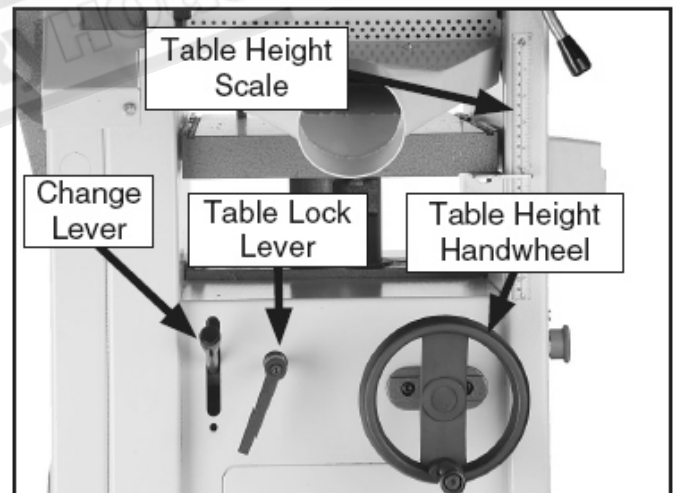

Figure 19. Planer table control locations. .
Table Height Handwheel: To move the planer table, rotate the table height handwheel (**Figure 19**).
9. Flip the change lever (**Figure 19**) up. To change the machine for jointer operations: